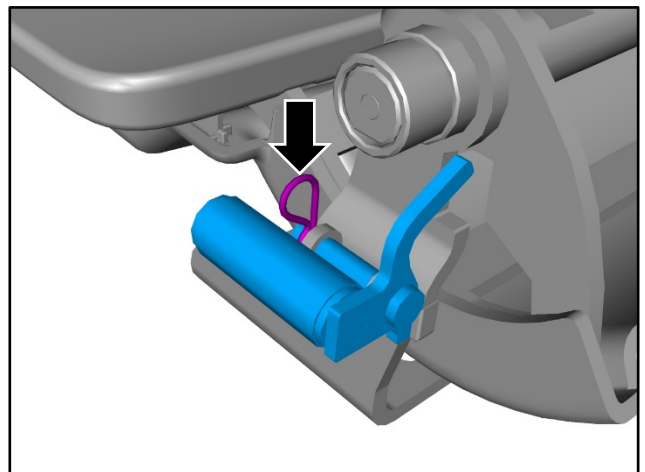

Figure 38
1. Remove the lock mechanism (refer to Figure 38).